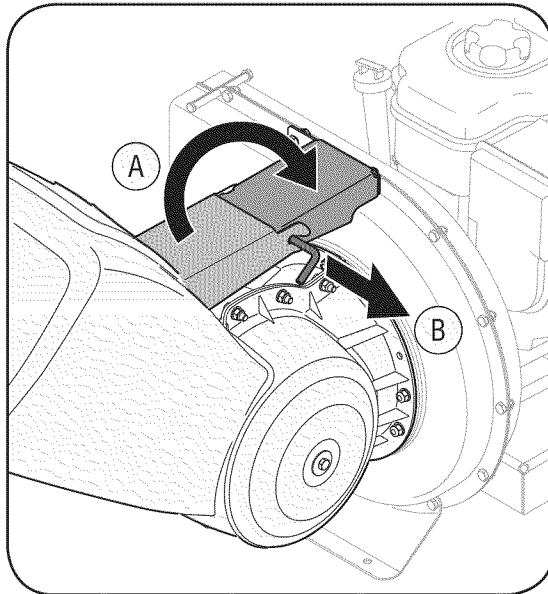

Figure 2
- Slide the release rod out slightly to hook the hopper bracket onto the rod. See Figure 2.